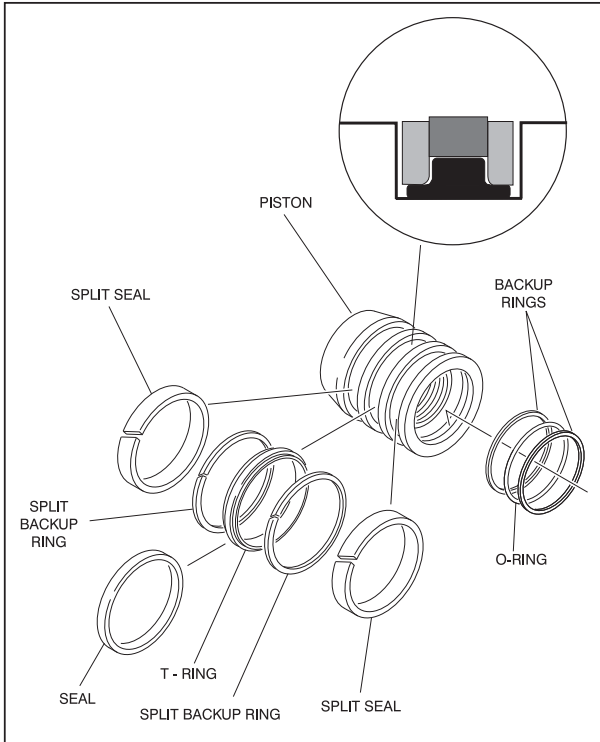

Figure 2-10. Piston Seal Kit Installation
NOTE: The backup rings for the solid seal have a radius on one side. This side faces the solid seal. (See magnified insert in Figure 2-10.) The split of seals and backup rings are to be positioned so as not to be in alignment with each other.
- Place new guide locks and seals in the applicable outside diameter grooves of the cylinder piston. (See Figure 2-10., Piston Seal Kit Installation)